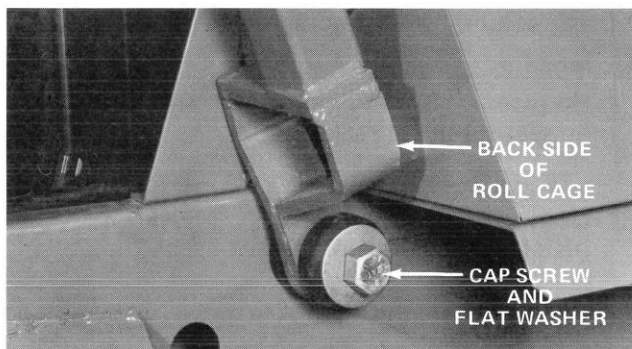

Figure 3
5. Secure two back sides of roll cage to sides of Groundsmaster with two cap screws, flat washers, lock washers, and nuts (Fig. 3).